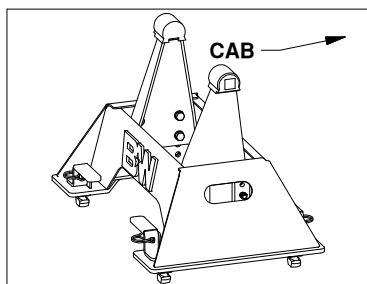
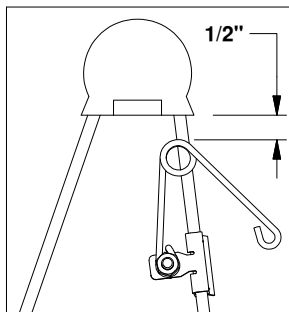

Figure B3: View of base.
Figure B4: Driver side pivot arm.
- 2. Attach kit.** Locate the flange which will be closest to the truck cab on the driver side pivot arm, see Figure B3. The clip should be placed so that when the springs coil is in the line with the edge of the arm there will be 1/2" of clearance between the bottom of the rubber bumper and the top of the spring, see Figure B4. Drive the clip securely onto the flange with a hammer.